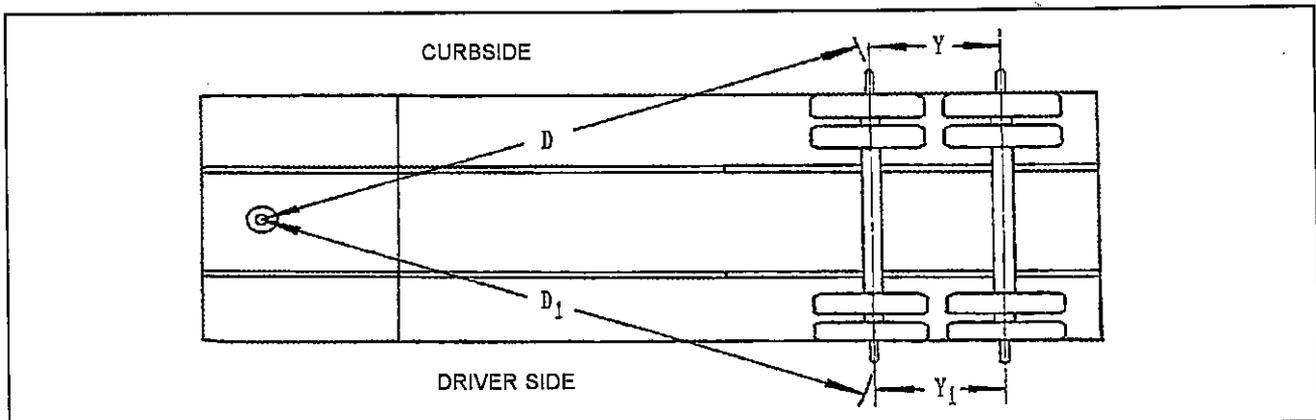

Fig. 4-8 Checking Axle Alignment
4. Measure (D) from the plumb bob to the center point on one end of the axle. Record this measurement (See Figure 4-8).
5. Measure (D1) to the other end of the axle in the same manner as in Step 4. Record this measurement (See Figure 4-8).